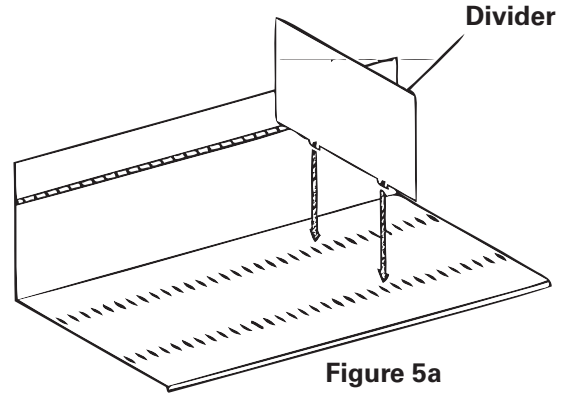
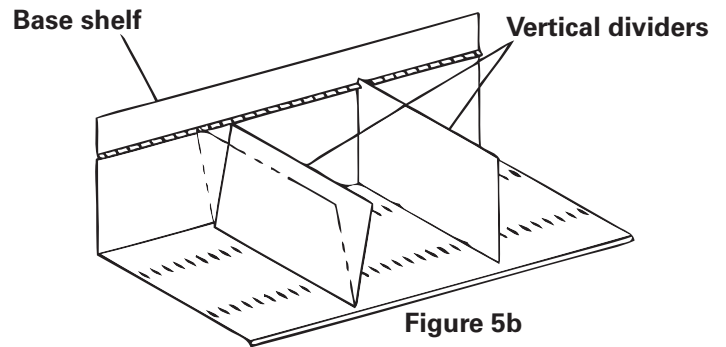

Figure 5a
Figure 5b
5. Dividers (C53200 only) may be installed in two different ways, either as a rigid upright or a "wobble block". For use as a rigid upright, insert Divider into the base and rear slot (see figure 5a), or reversed for a "wobble block" (see figure 5b).